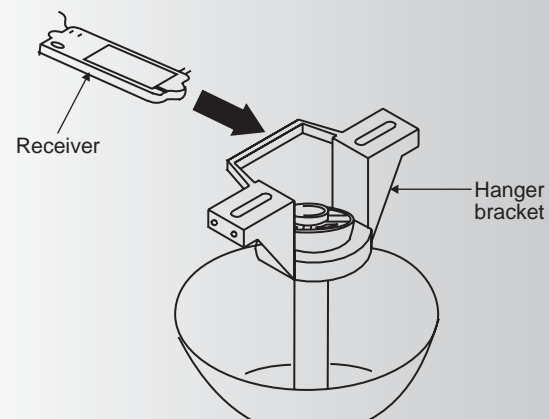

Fig. 15
Step 1. (Fig. 15) Insert the receiver into the mounting bracket with the flat side of the receiver facing the ceiling.
Step 2. Slide the canopy up to ceiling and over the two screws on hanger bracket. Rotate canopy clockwise, next, while holding the canopy with one hand, slide the canopy cover over the screws and rotate clockwise until tight. **NOTE:** adjust the canopy screws as necessary until the canopy and canopy cover are snug. (Fig.15)